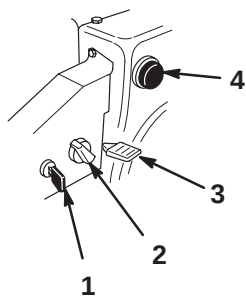

Figure 14
- **Ignition Switch** (Fig. 14)—Insert the key before starting the engine. To stop the engine, remove the key.
- **Choke** (Fig. 14)—Rotate the choke to the *On* position to start a cold engine. As engine warms up, gradually rotate the choke counterclockwise to the *Off* position.
- **Throttle** (Fig. 14)—Move the throttle upward to increase the engine speed; move it downward to decrease the engine speed. Move the throttle to the *Stop* position to stop the engine.
- **Primer** (Fig. 14)—Press the primer to pump a small amount of gasoline into the engine for improved cold-weather starting.
2. Remove the key from the ignition switch (Fig. 14).
3. Pull the choke knob off (Fig. 14).
5. Rotate the choke (Fig. 14) to the *On* position.
6. Insert the ignition key (Fig. 14).
7. Cover the hole in the center of the primer (Fig. 14) with your thumb and slowly push in the primer three times, pausing a moment between pushes.
9. After the engine starts, immediately rotate the choke (Fig. 14) to the 3/4 position. As the engine warms up, rotate the choke to the 1/2 position. When the engine warms up sufficiently, rotate the choke to the *Off* position.